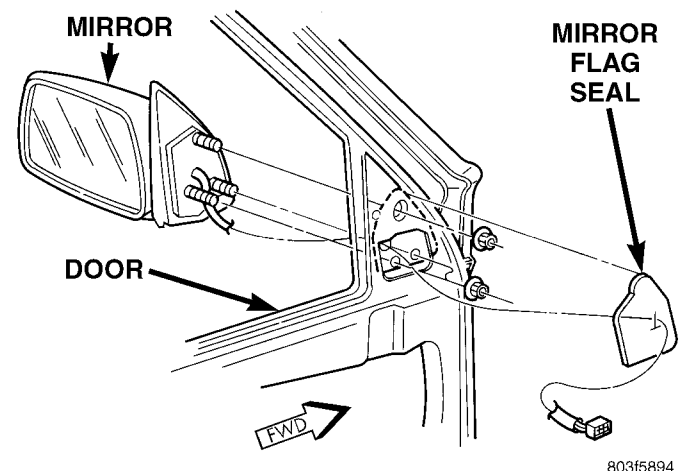

Fig. 9 Side View Mirror
- (1) Remove door trim panel.
- (2) Disengage power mirror connector from trim panel.
- (3) If equipped, disengage two-way electrochromic mirror connector from wiring harness.
- (4) Remove clips attaching mirror harness to door inner panel.
- (5) Remove mirror flag seal.
- (6) Remove mirror retaining nuts (Fig. 9).
- (7) Remove mirror from door. Refer to Group 8, Electrical for additional information involving power mirrors.